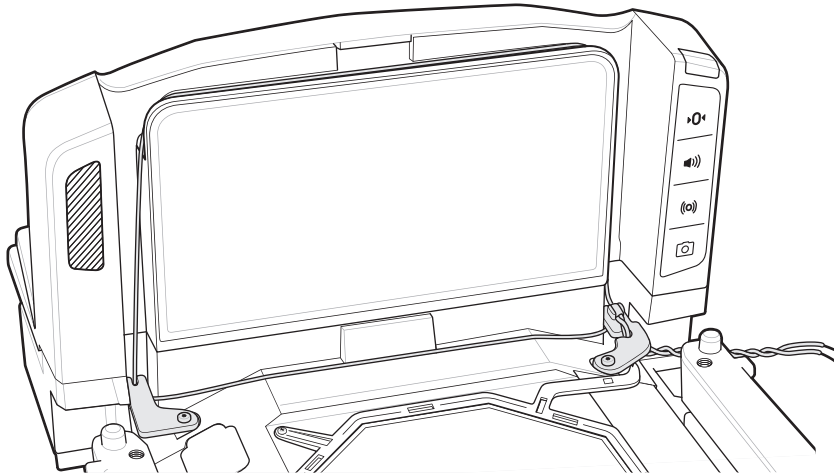

Figure 3-37 *Completed Installation*
10. When installation is complete the wiring, left side and right side brackets, and antenna should resemble the placement in Figure 3-37.